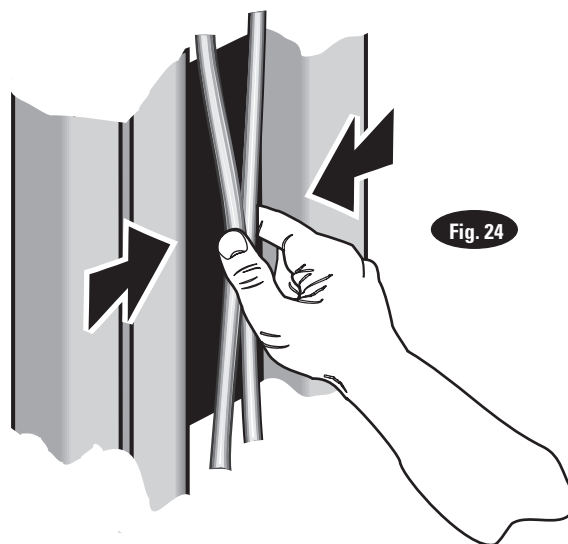

Fig. 24
21. Equalizer Cable Adjustment: Raise lift to check equalizer cable tension. Below carriage, grasp adjacent cables between thumb and forefinger, with about 15 lbs. effort you should just pull the cables together, Fig. 24. Adjust at upper tie-offs Fig. 15.